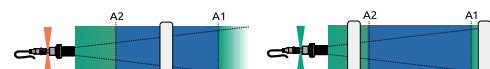

Figure 19 - Trigger on out of range: on approach (S<A2) or on approach (S>A1)
- The output signal toggles when an object is at a certain distance (S) within the configured range. The working principle is shown in Figure 19. When the object is not in or out of the set range, the output turns off. The user range needs to be set during operation: A1 > A2.